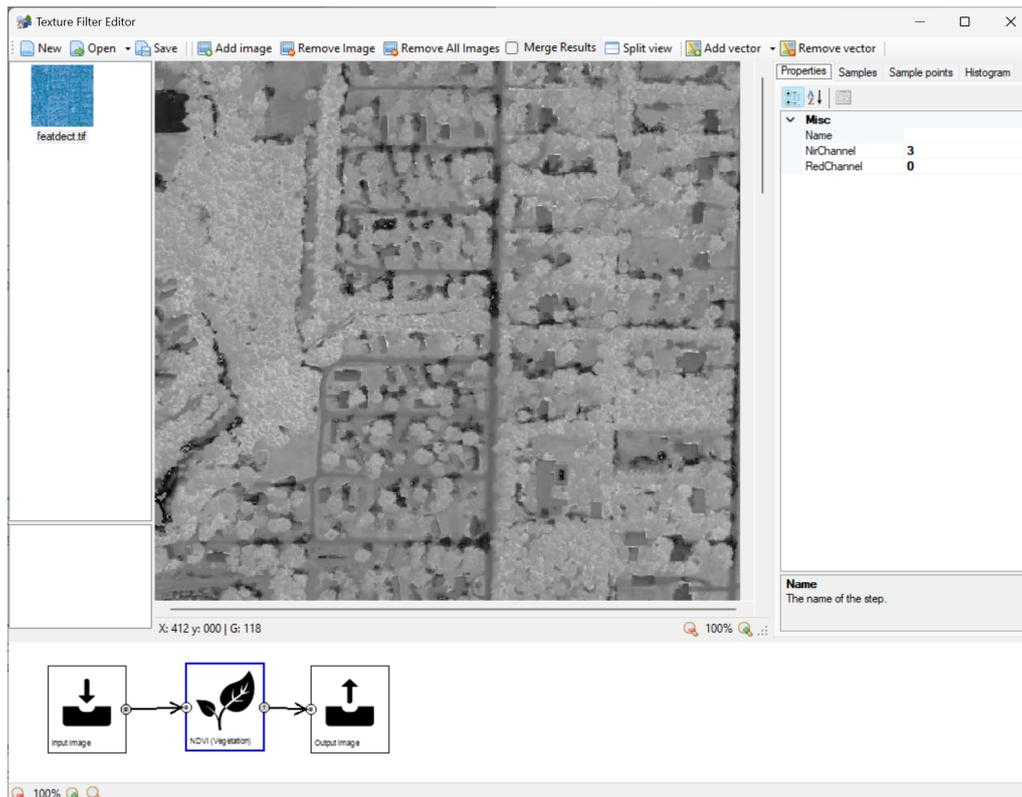
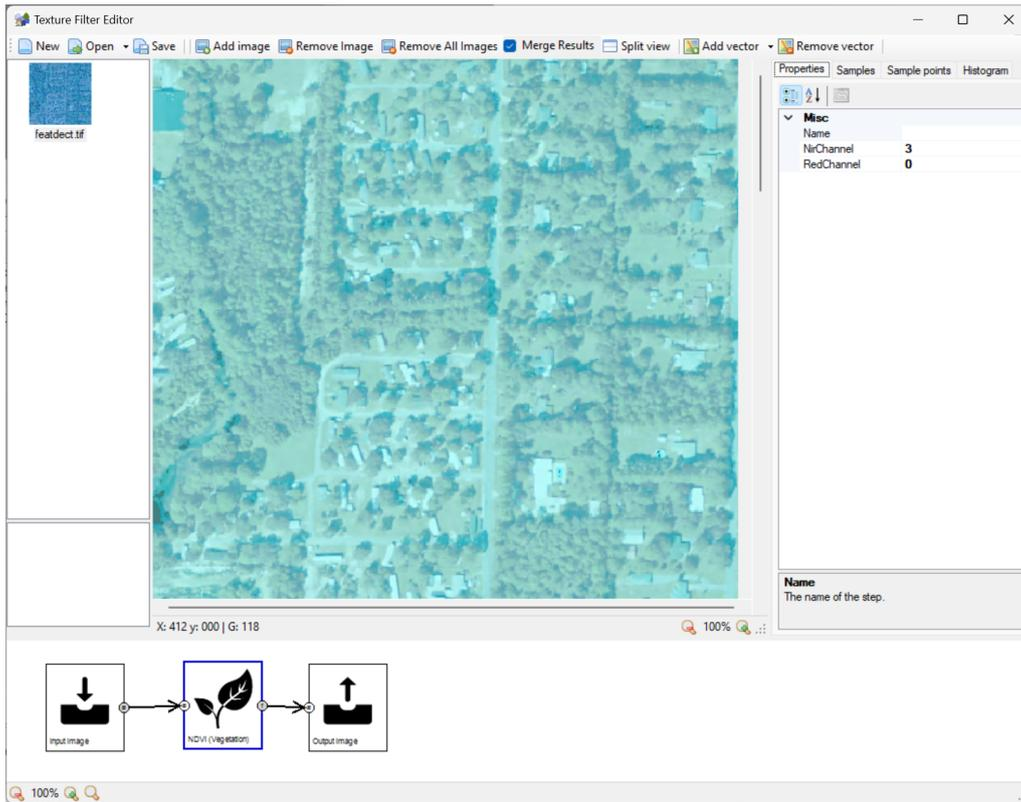

Figure 6.6: When a step is selected the result of this step is shown in the preview
Figure 6.7: The step output merged with the input image
- In the middle there is a preview area, here you can see the effect of your texture filter on the loaded test images. If you click on a step in the texture filter you will see the output of the texture filter until that step, see Figure 6.6. That way you can easily inspect what the output is and if the texture filter gives the expected results. If you have the merge results checkbox selected the input image and the step result are shown merged, see Figure 6.7.